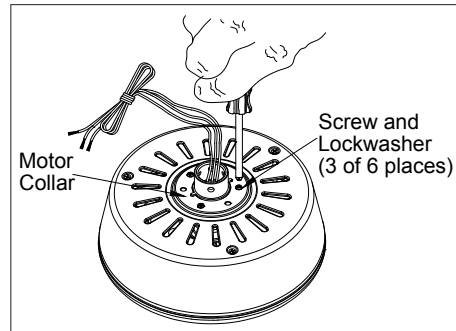

Figure 9
4. Remove three of the six screws and lock washers (every other one) securing the motor collar to the top of the fan-motor assembly. (Figure 9)